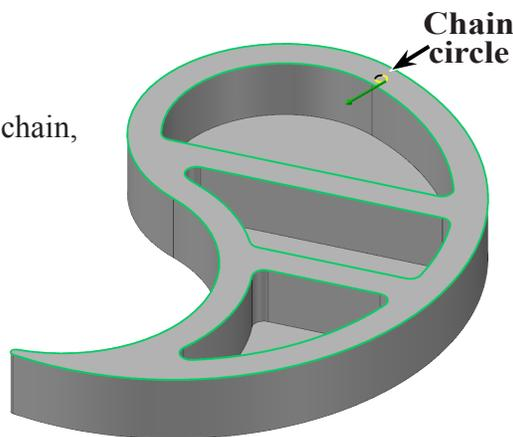

Fig. 44
Step 2. Click Pin hole (magenta) to chain, Fig. 44.